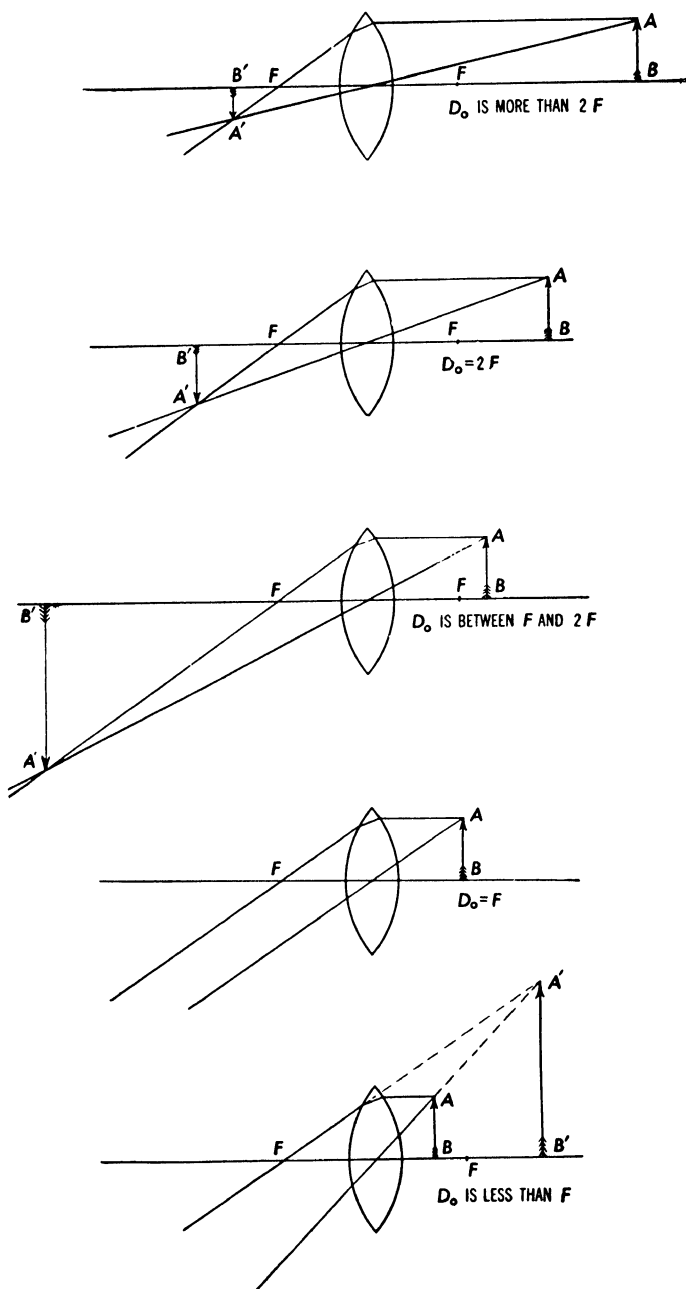

Fig. 35.11. Showing how the position of the image changes as the object approaches a convex lens.
The size and the location of the image formed by a converging lens depend on the location of the object with respect to the lens and the principal focus. Five cases are shown in Figure 35.11. (1) If the object is more than two focal lengths from the lens, the image is real, smaller than the object, inverted, and is located between the focus and a point two focal lengths from the lens. (2) If the object is just two focal lengths from the lens the image is real, the same size as the object, inverted, and is located just two focal lengths from the lens. (3) If the object is less than two focal lengths from the lens but still outside of the focus the image is real, larger than the object, inverted, and is located more than two focal lengths from the lens. (4) If the object is at the focal point the two rays which emerge from the lens are parallel, therefore meet at infinity, and the image is infinitely far away — in other words, no image is formed. (5) If the object is within the focal length the two rays which emerge from the lens diverge, and seem to come from a point A' on the same side of the lens as the object. The image is virtual, larger than the object, erect, and is located back of the lens. This last case illustrates how a lens may be used as a simple magnifying lens.